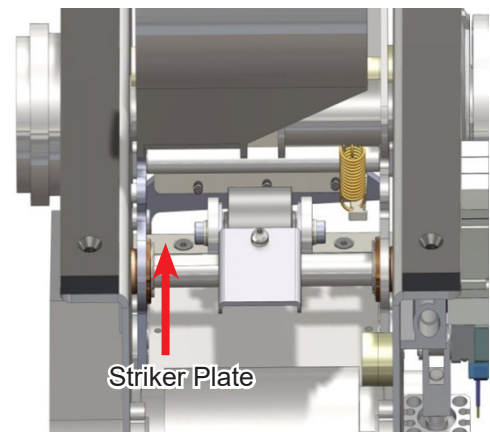

Figure 68: Striker Plate
7. Remove the striker plate (refer to Figure 68).